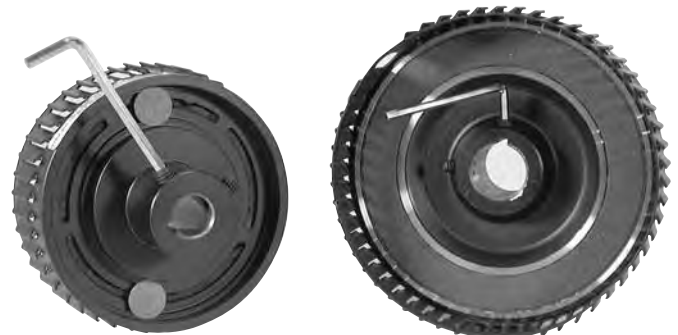

Figure 4
5. Using an Allen Wrench securely tighten the two setscrews in the rotor hub. (See Figure 4) When the motor is turned on, the spacer buttons will quickly wear away and provide the proper gap between the field and rotor. The setscrews are accessible from the front of the rotor on sizes 100, 180, 210, and from behind the rotor on size 50 units.